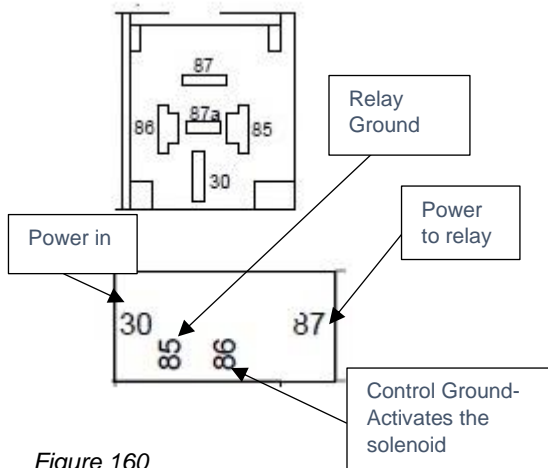

Figure 160
5. The power for the air compressor and the dump relay will receive 12-volts to pin 30 on the relay from pin 8,16,18, on the round plug on the relay panel Figure 160 and Figure 160